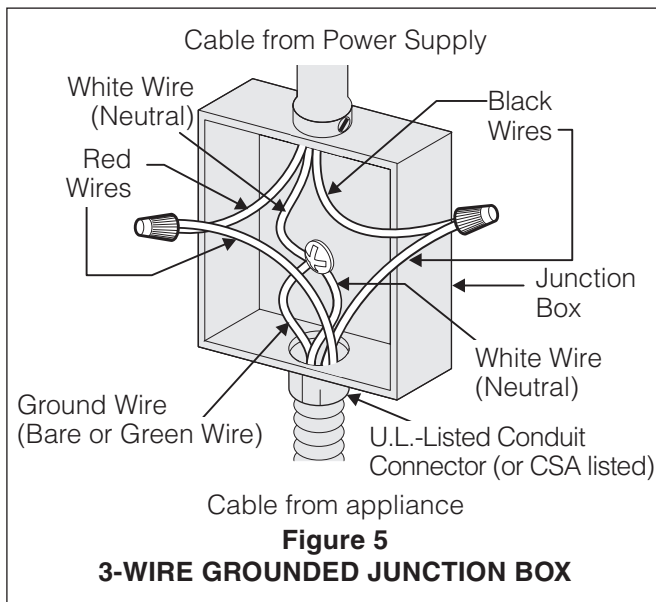
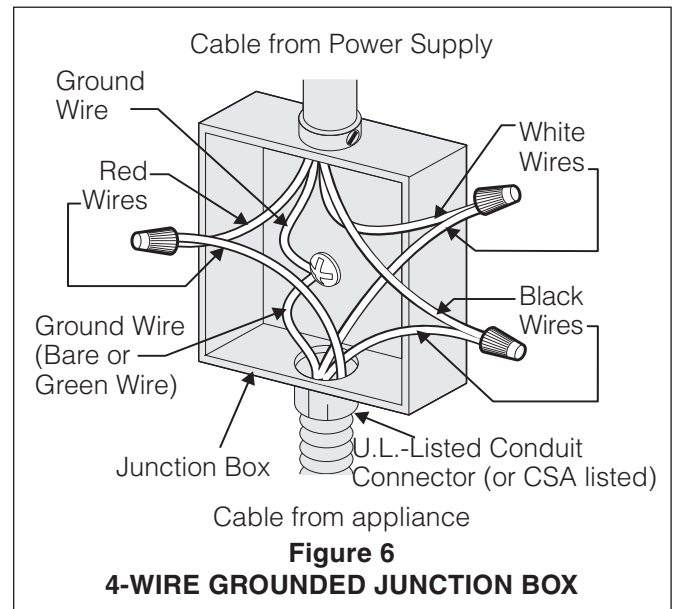

Figure 5
Figure 6
Where local codes permit connecting the appliance-grounding conductor (wire) to the neutral (white) wire (see figure 5):
2. In the circuit breaker, fuse box or junction box, connect appliance and power supply cable wires as shown in figure 5.
**⚠ WARNING** This appliance is manufactured with a white neutral power supply and a frame connected copper wire. The frame is grounded by connection of grounding lead to neutral lead at the termination of the conduit, if used in USA, in a new branch circuit installation (1996 NEC), mobile home, recreational vehicles, where local code do not permit grounding through the neutral (white) wire or in Canada, disconnect the white and green lead from each other and use ground lead to ground unit in accordance with local codes, connect neutral lead to branch circuit-neutral conductor in usual manner see Figure 6. If your appliance is to be connected to a 3 wire grounded junction box (US only), where local code permit connecting the appliance-grounding conductor to the neutral (white) see Figure 5.
If cooktop is used in a new branch circuit installation (1996 NEC), mobile home, recreational vehicle, or where local codes DO NOT permit grounding through the neutral (white) wire (see figure 6):
3. In the circuit breaker, fuse box or junction box: connect appliance and power supply cable wires as shown in figure 6.